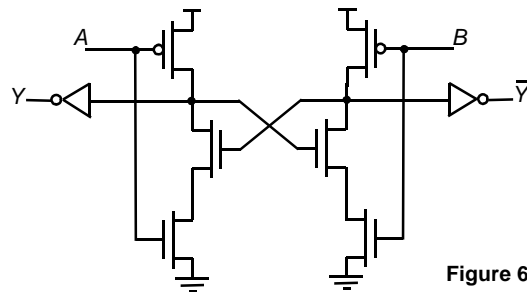

Figure 6.10 Gate.
12. What is the function of the circuit in Figure 6.10?